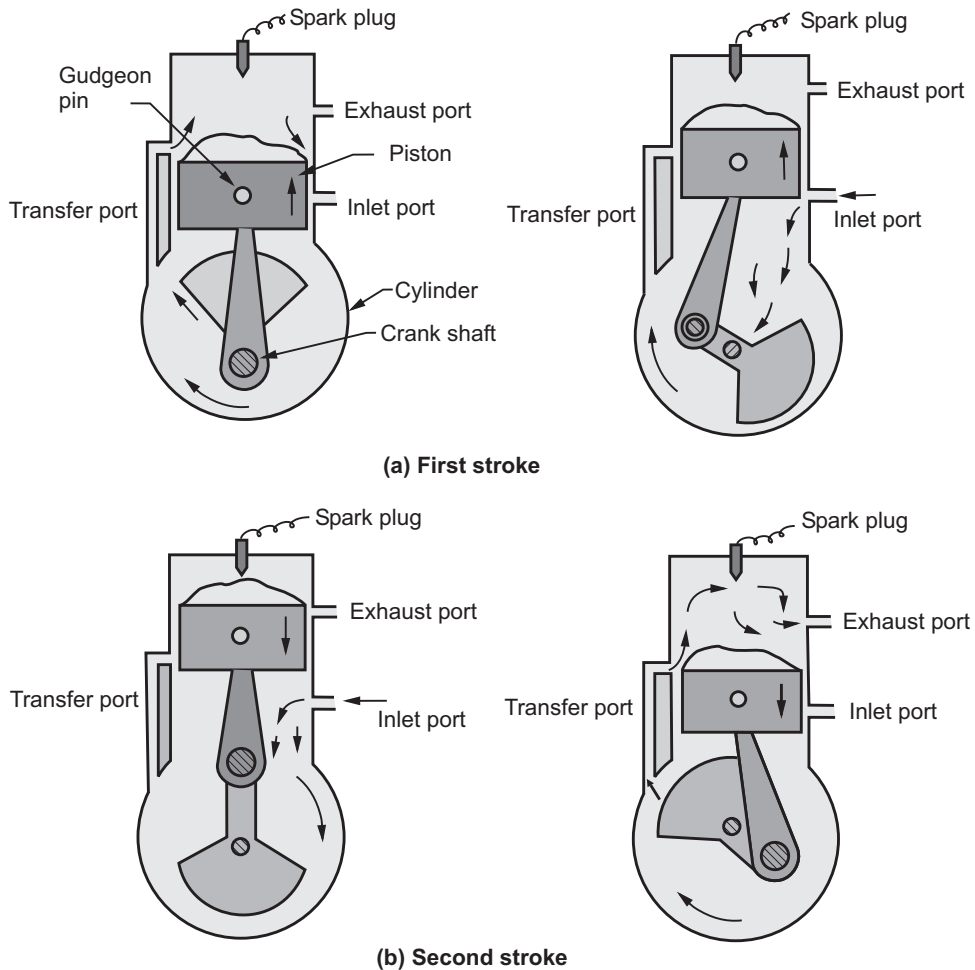

Fig. 4.5 : Two stroke petrol (S.I.) engine
- A two stroke petrol engine consists of following strokes (Refer Fig. 4.5) :